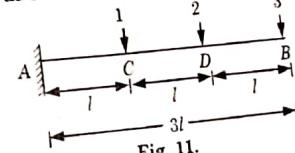

Fig. 11.
- a. Develop the flexibility matrix for the cantilever with coordinate as shown in Fig. 11. Take uniform flexural rigidity.